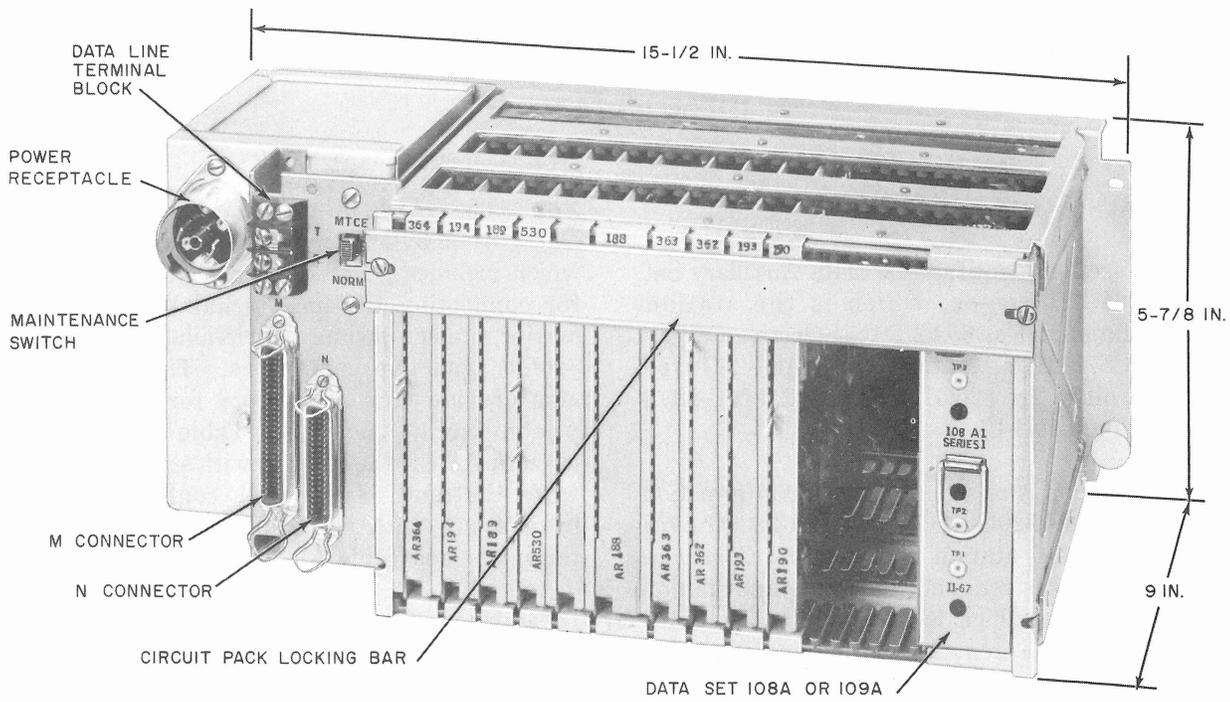
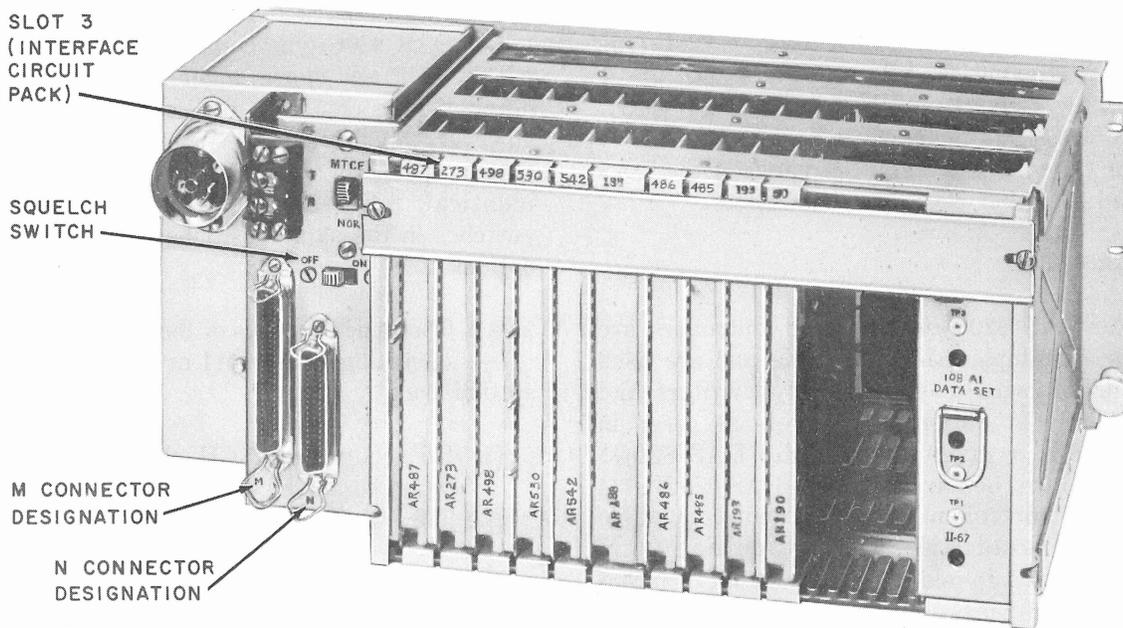

Fig. 1—Data Auxiliary Set 820G1
Fig. 2—Data Auxiliary Set 820G-L1/4
1.04 The physical dimensions of the DAS 820G-type are the same for all controllers. Figure 1 illustrates the physical dimensions for DAS 820G1. The DAS 820G-L1/4 is shown in Fig. 2 with arrows indicating the visible differences between the DAS 820G1 and the other 820G-type controllers.